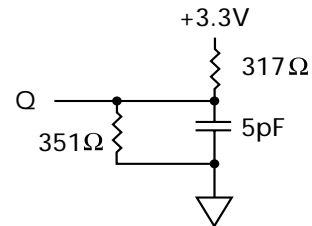

Figure 2
- The load used for VOH, VOL testing is shown in Figure 2. AC load current is higher than the stated DC values. AC I/O curves are available upon request.
3. This parameter is measured with output loading shown in Figure 2.